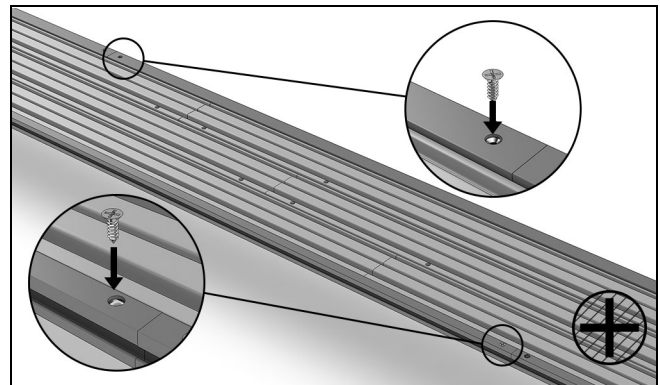

Figure 23
7. Fasten the splice keys with the screws you removed earlier. See Figure 23.